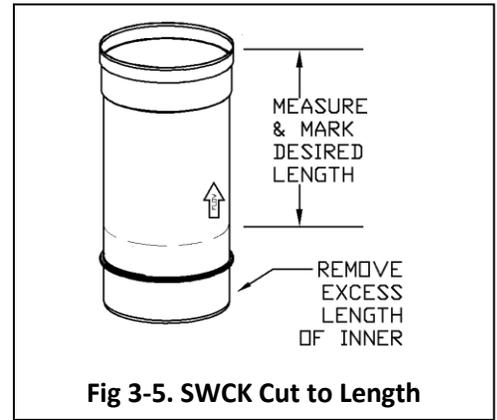

Fig 3-5. SWCK Cut to Length
3. Measuring DOWN from the OUTLET end of the pipe, mark a line around the perimeter of the pipe at the desired location for the cut (See Fig 3-5).